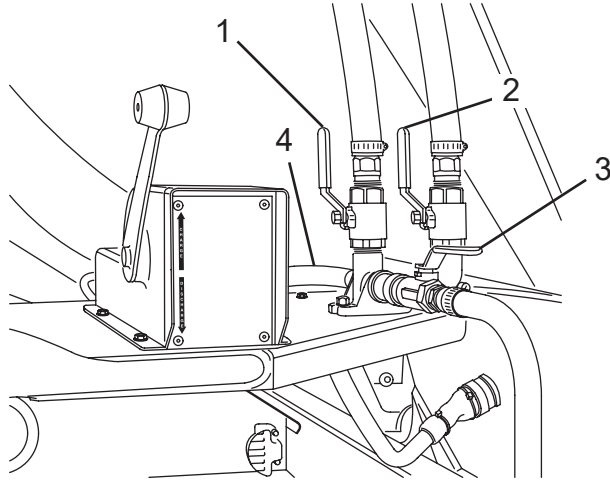

Figure 105
5. Open wash-out hose valve (Figure 105, Item 3) at the rear of the Mixer and allow water to drain.
6. Open drum wash-out valve (if equipped) (Figure 105, Item 1), and add-water valve (Figure 105, Item 2) and allow water to drain.
10. Close the drum wash-out valve (if equipped) (Figure 105, Item 1) and add-water valve (Figure 105, Item 2).
13. Open the drain petcock located at the lowest point in the supply hose (Figure 105, Item 4).